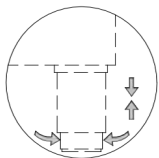

Figure 1
- Place the refrigerator on a flat level surface (use the adjustable feet) (Fig. 1)